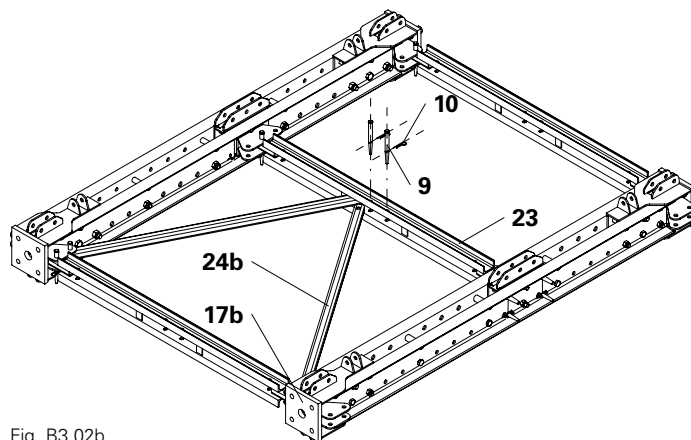

Fig. B3.02b
4. Swivel second Diagonal Strut VST 200/150 (**24b**)* into the Horizontal Ledger VST 200 (**23**). (Fig. B3.02b)